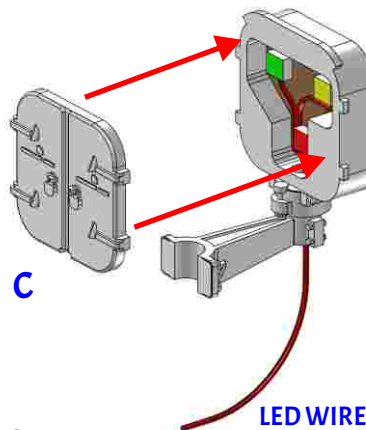

FIG. 3
STEP 3 USING CANOPY GLUE, ATTACH THE SIGNAL BACK (C) TO THE BACK OF THE HOUSING (FIG. 3). USING CANOPY GLUE WILL ALLOW ACCESS TO THE LED ASSEMBLY SHOULD IT NEED TO BE REPLACED. ATTACH THE MOUNTING BRACKET AND BRACKET CLAMP (D) TO THE LADDER MAST WITH SUPER GLUE. IF THE LADDER ASSEMBLY IS ALREADY PAINTED, YOU MAY NEED TO REMOVE THE PAINT AT THE ATTACHMENT POINT AND RETOUCH AFTER ASSEMBLY IS COMPLETE.